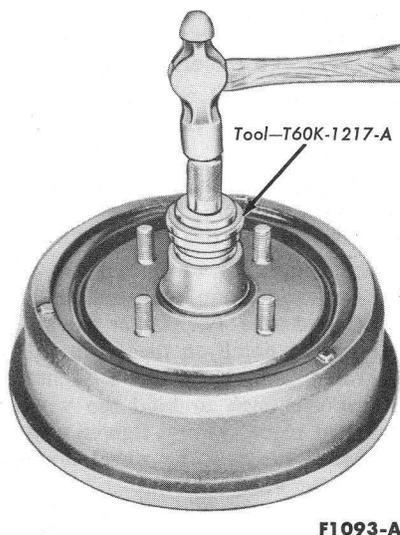

FIG. 3—Front Wheel Bearing Cup Installation
7. Install the inner and outer bearing cup(s) in the hub with the tool shown in Fig. 3. **Be sure to seat the cups properly in the hub.**
10. If it was removed, place the inner bearing cone and roller in the inner cup, and install the grease retainer with the reverse end of the tool shown in Fig. 3. **Be sure that the retainer is properly seated.**